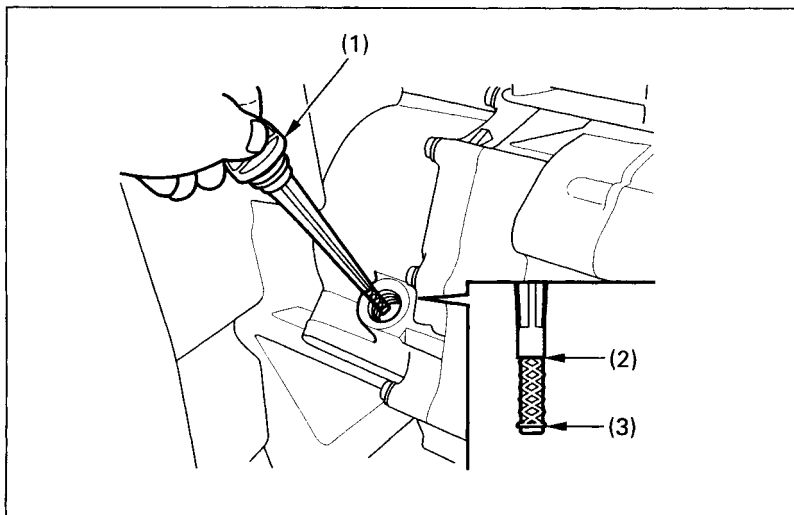

Fig. 2-27 (1) Oil filler cap/dipstick (2) Upper level mark
The oil filler cap/dipstick (Fig. 2-27), on the front crankcase cover, is used to measure the oil level. The oil should be checked each day before operating the FOURTRAX and maintained between the upper level mark (2) and the lower level mark (3).